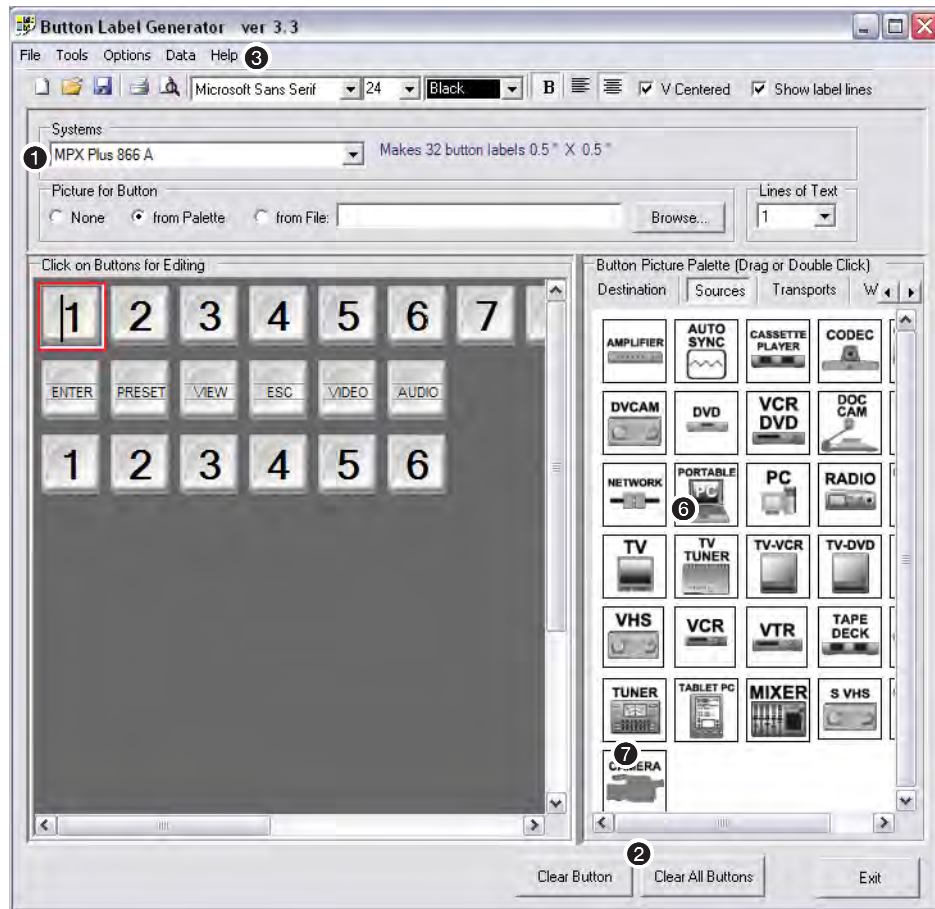

Figure 79. Extron Button-Label Generator Window
1. To run the Button-Label Generator program, click **Start > Programs > Extron Electronics > Button Label Generator > Button Label Generator**. The Button-Label Generator window appears (see figure 79).